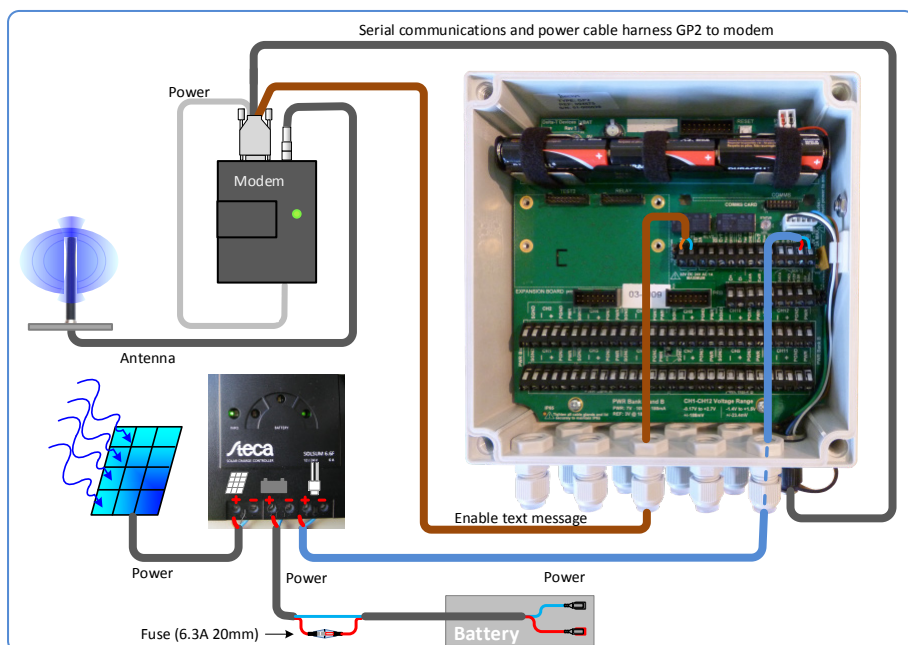

Figure 9 The wiring scheme for a GP2 data logger controller with a **SOL4-KIT2** solar powered charging system, an **LBAT4** 10Ah battery and an **MD-GSM-2** modem system
2. Briefly connect together the two wires of the text message control cable. This can be found connected to the modem via the DB9 connector on the Modem System cable – see Figure 9.
1. Connect the GP2 to the modem using the cable harness provided as shown in Figure 9.